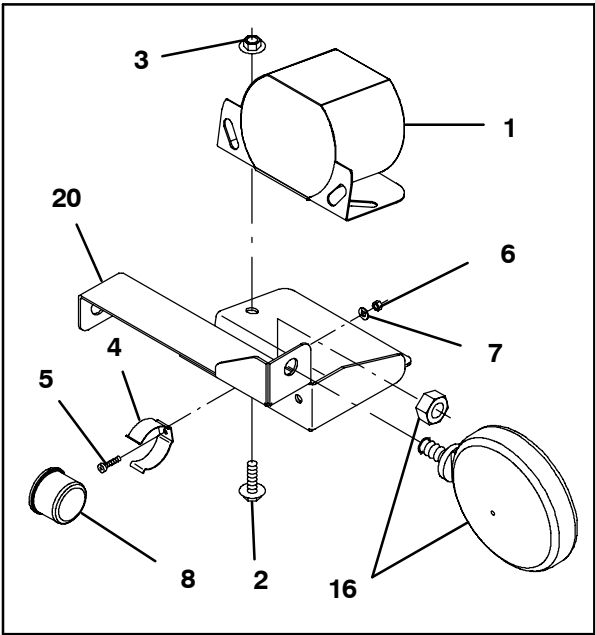
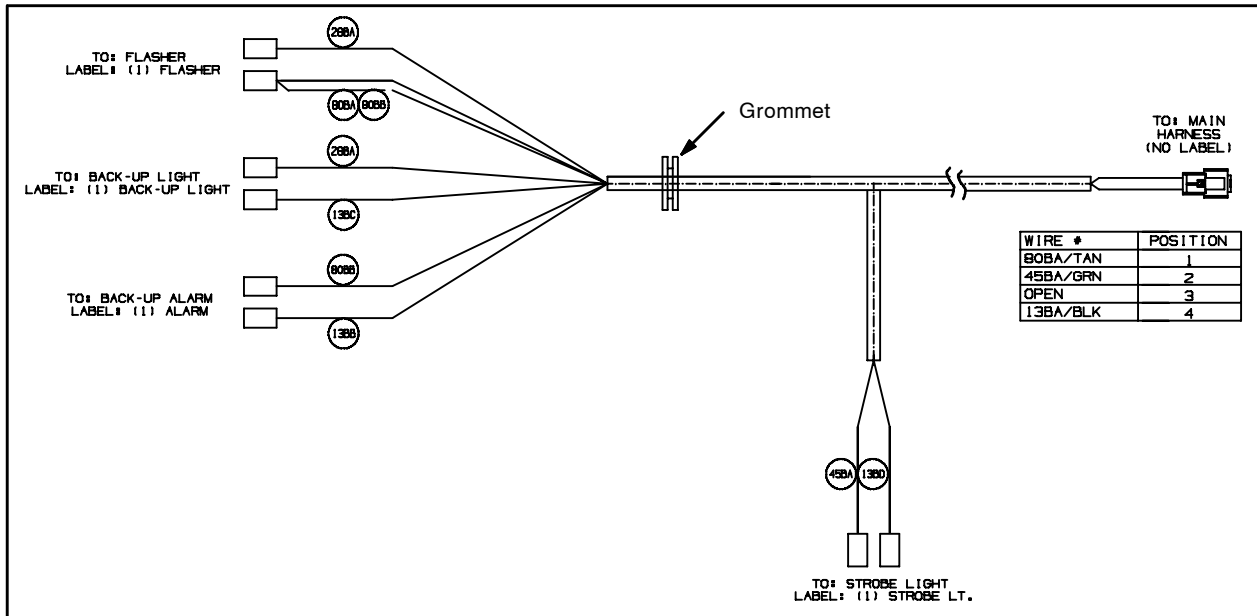
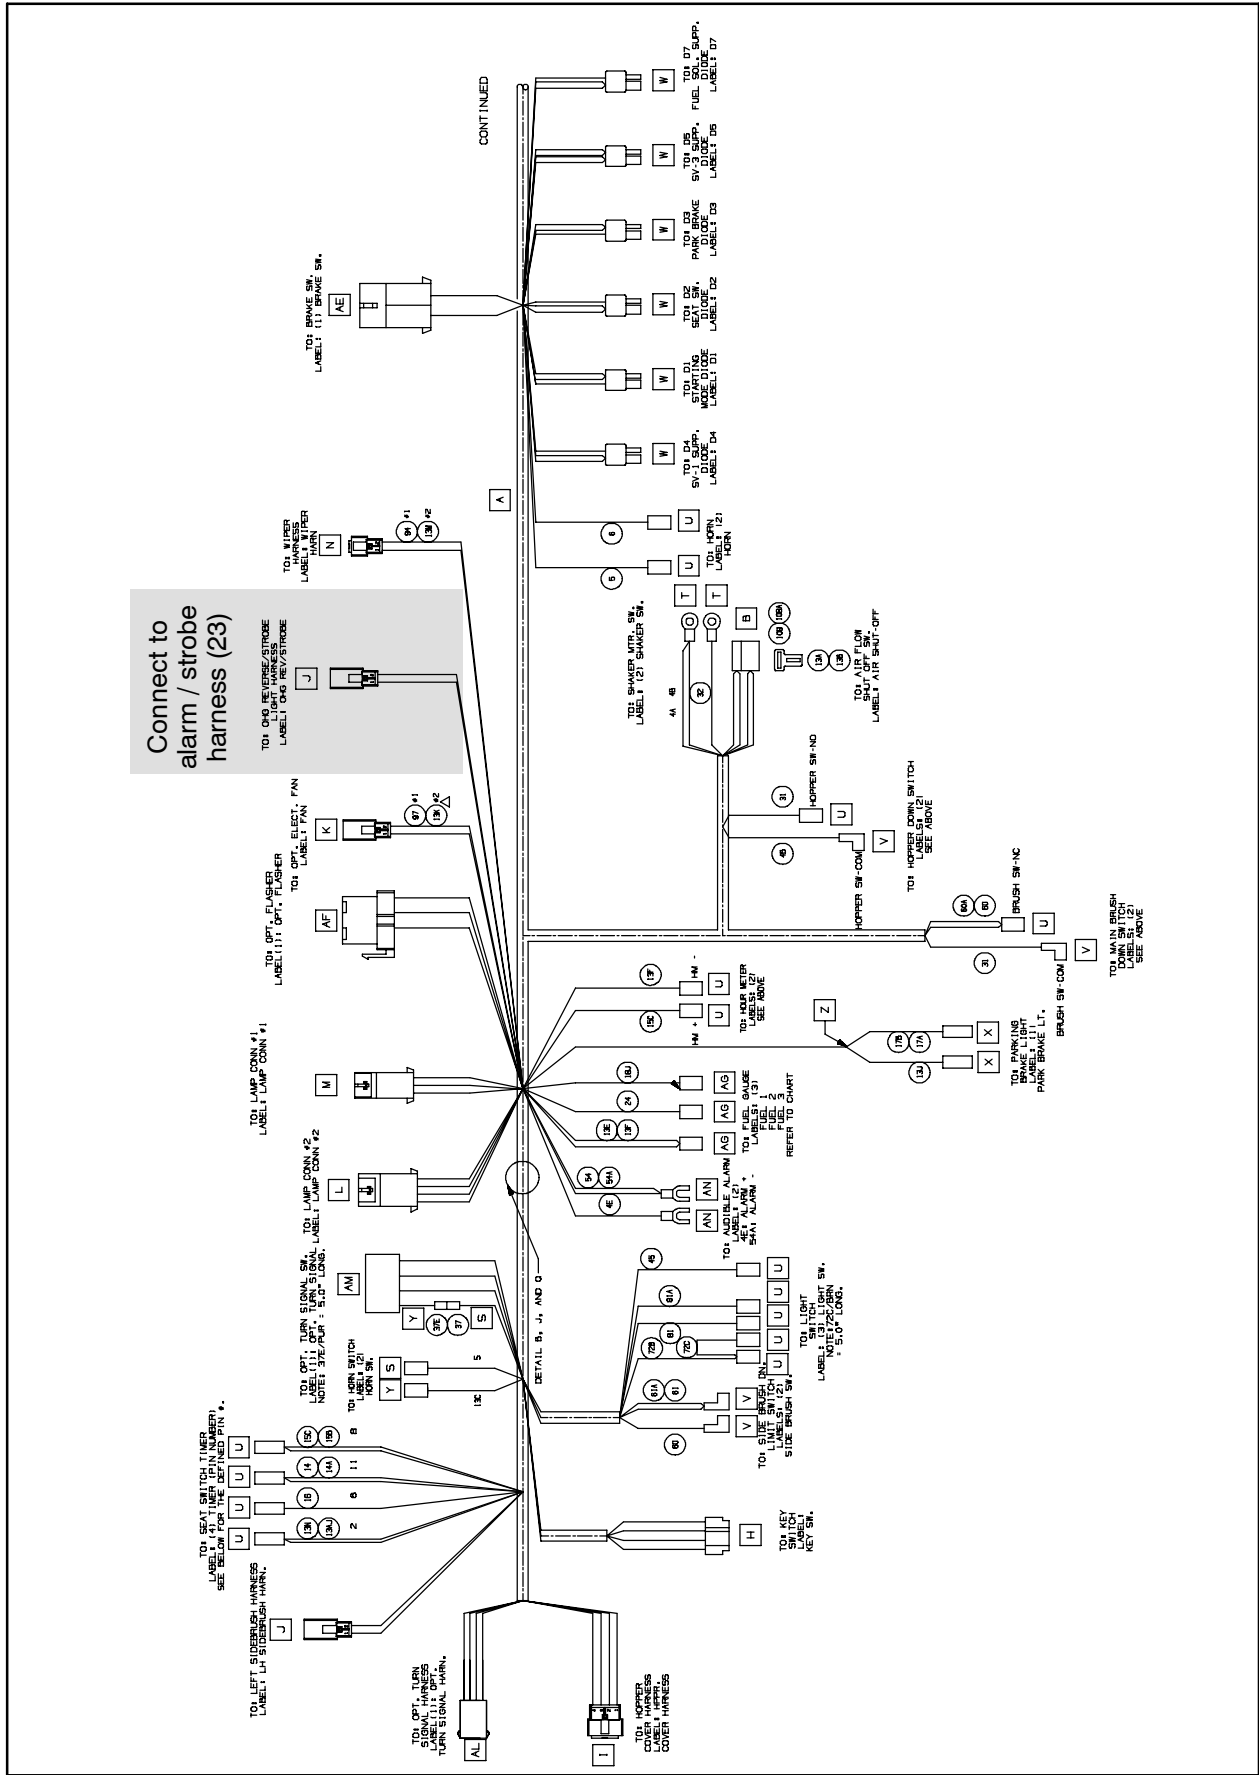

FIG. 1
FIG. 4
FIG. 13
1. Use a pan screw (5), lock washer (7), and a hex nut (6) to install the grip clip (4) onto the mounting bracket (20). Refer to Fig. 1.
2. Trim the backup alarm (1) wires to 5".
3. Crimp a bullet terminal (25) onto each backup alarm (1) wire.
4. Use two hex screws (2) and two hex nuts (3) to install the backup alarm (1) onto the mounting bracket (20). Refer to Fig. 1.
5. Trim the spot light (16) wires to a 6" length and crimp the QF terminals (26) onto the wires.
6. Use the hardware included with the spot light (16) to install the spot light onto the mounting bracket (20). Refer to Fig. 1.
7. Insert the 12 VDC flasher (8) into the previously installed grip clip (4). Refer to Fig. 1.
12. Connect the alarm / strobe harness (23) to the flashing light (17). Refer to Fig. 4.
13. Connect the alarm / strobe harness (23) to the backup alarm (1), spot light (16), and 12 VDC flasher (8). Refer to Fig. 1 and Fig. 4.
19. Connect the alarm / strobe harness (23) to the main wire harness. Refer to Fig. 4 and Fig. 13.